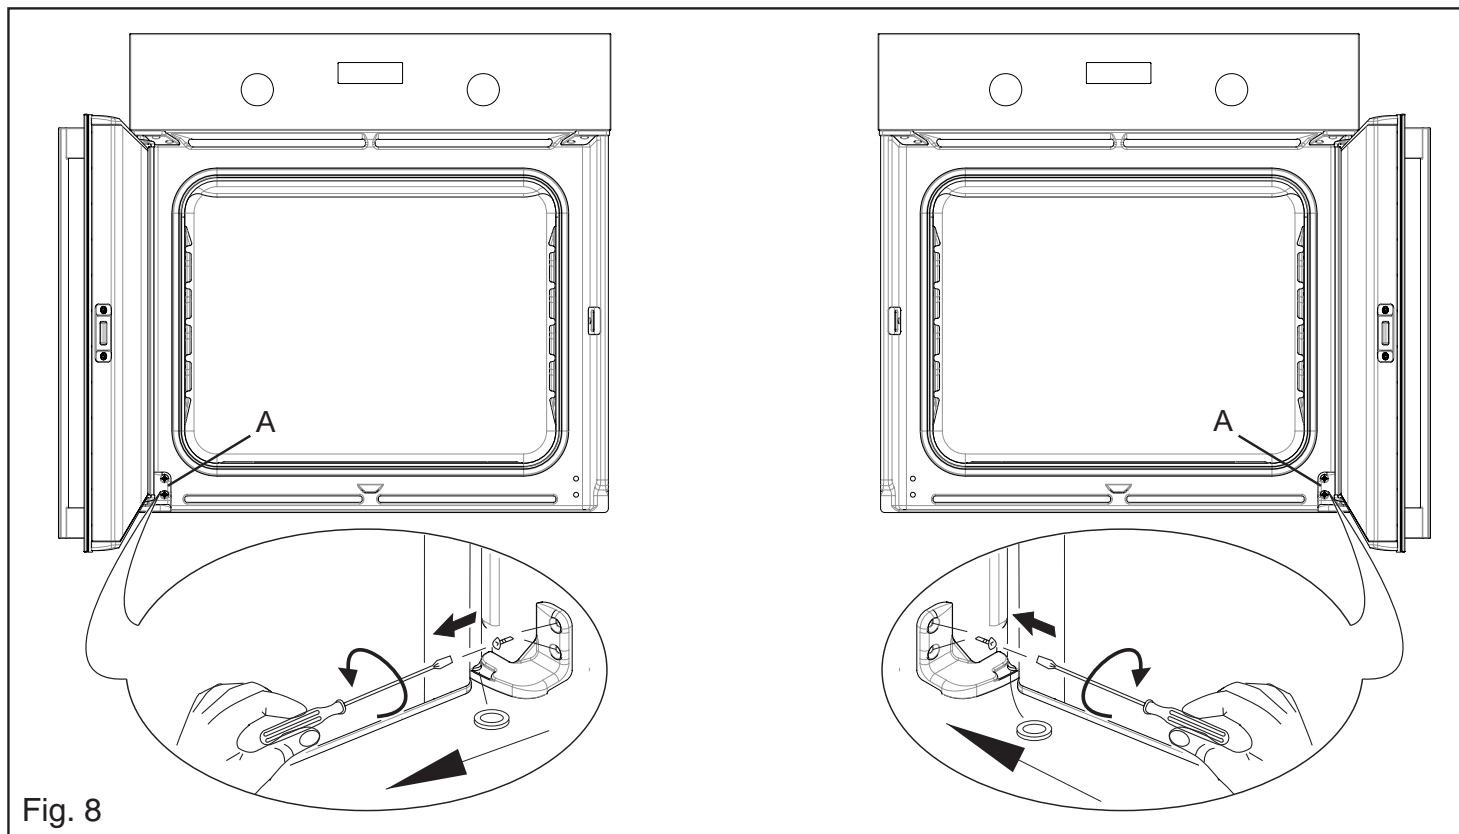

Fig. 8
- 1) Open the oven door and undo the two screws in the block **A** (see figure 8).